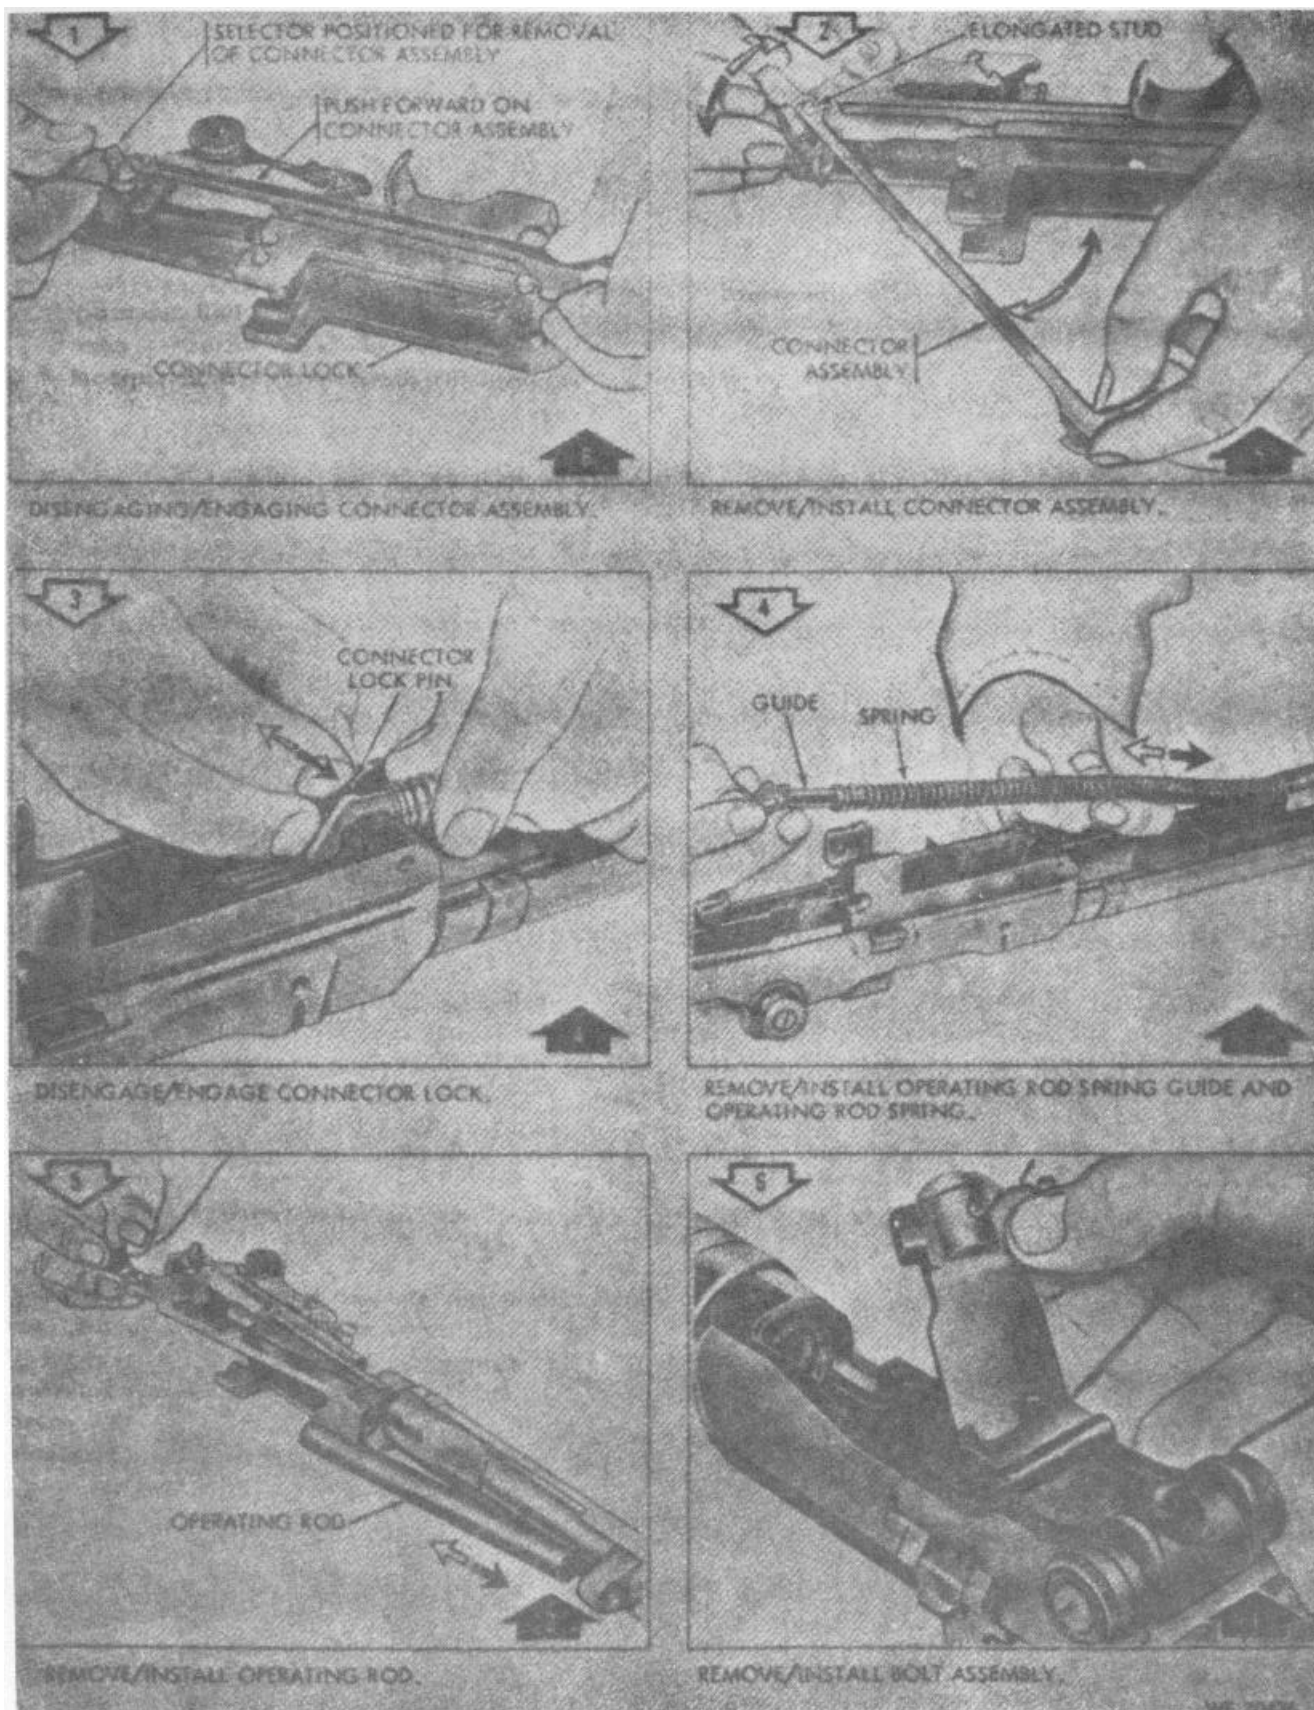

Figure 2-5. Remove/install operating rod and connector assembly.
- a. Removal/installation. Refer to figure 2-5.
a. Removal. Refer to figures 2-5, 2-6, and to TM 9-1005-223-10.